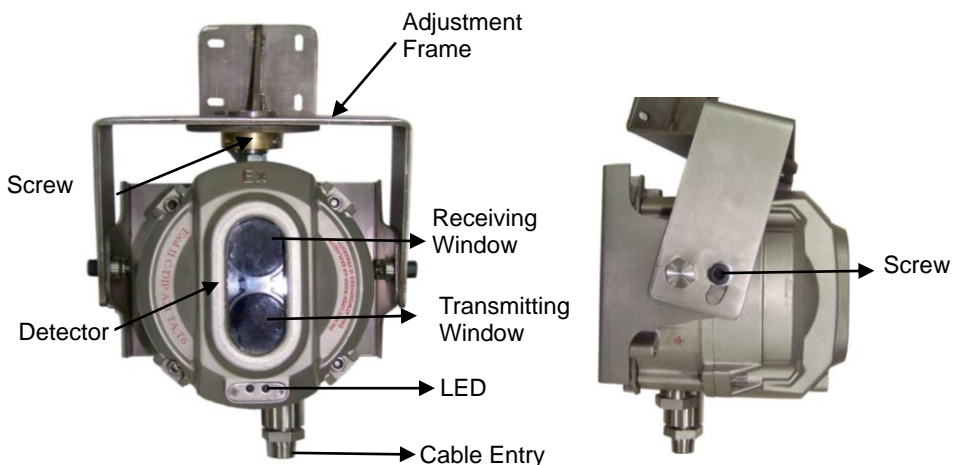

Fig. 1
1. Appearance of the detector is shown in Fig. 1.
- (1) If the detector connects with GST fire alarm control panel, only one wiring hole is needed. The other one should be stopped with an end cap, as shown in Fig. 1.